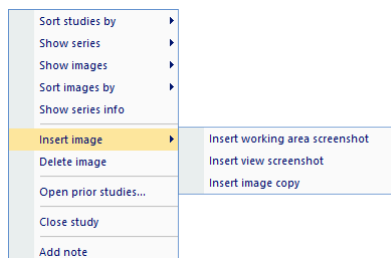

Figure 177 – Context menu of the thumbnails palette
3. Right-click to open the context menu, and select the **Insert image/Insert working area screenshot** item (see Figure 177). The screenshot of the working area is then automatically inserted at the end of the target series.
3. Right-click to display the context menu, and select the **Insert image/Insert view screenshot** item (see Figure 177). The screenshot of the current view is then automatically inserted at the end of the series.
3. Right-click to display the context menu, and select the **Insert image/Insert image copy** item (see Figure 177). The image from the current view is then automatically inserted at the end of the series.
2. Right-click to display the context menu (see Figure 177), and select the **Delete image** item. The image/group of images is then automatically deleted from the series.